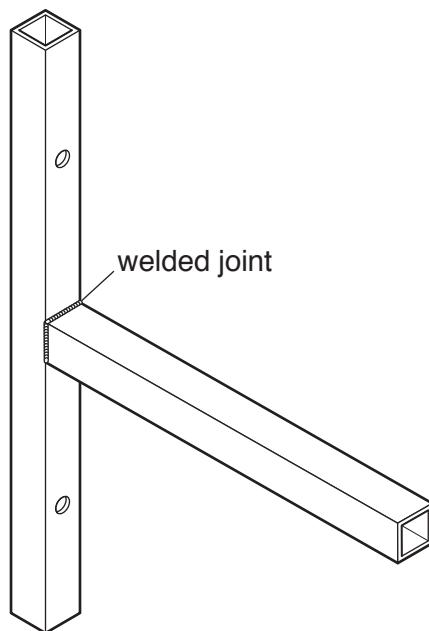

Fig. 4
- 8 Fig. 4 shows a bracket made from square steel tube.
Use sketches and notes on Fig. 4 to show a method of reinforcing the welded joint in the bracket.